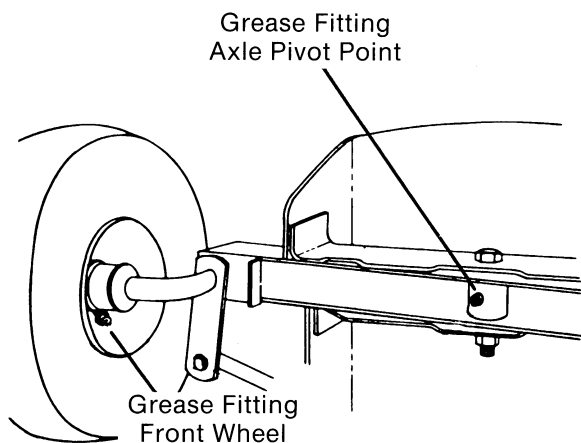

FIG. 2
2. Front Wheels - Grease with NLGI Grade 2 Lithium base EP grease (Ford 1T-M1C137-B), every 25 operating hours. (Fig. 2)
3. Front Axle Pivot Point - Grease with NLGI Grade 2 Lithium base EP grease (Ford 1T-M1C137-B), every 25 operating hours. (Fig. 2)